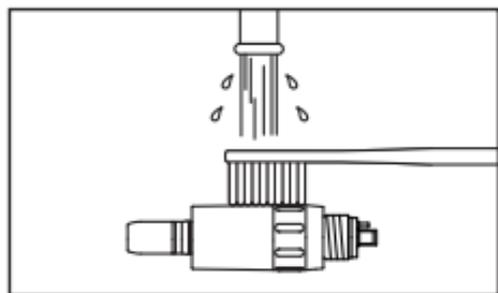

Fig. 14
- 1 Brush the exterior of the motors under running tap water using a soft bristled brush for one minute (Fig. 14).